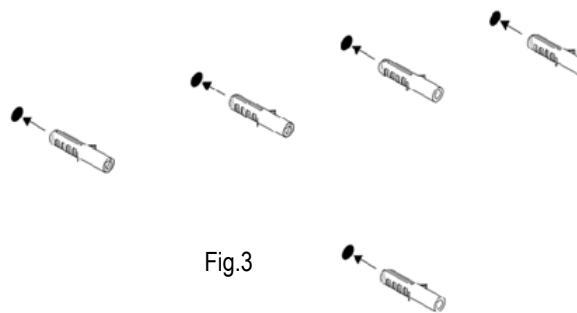

Fig.3
- Insert the wall anchors (BB) into the holes by using a hammer. (Fig.3)